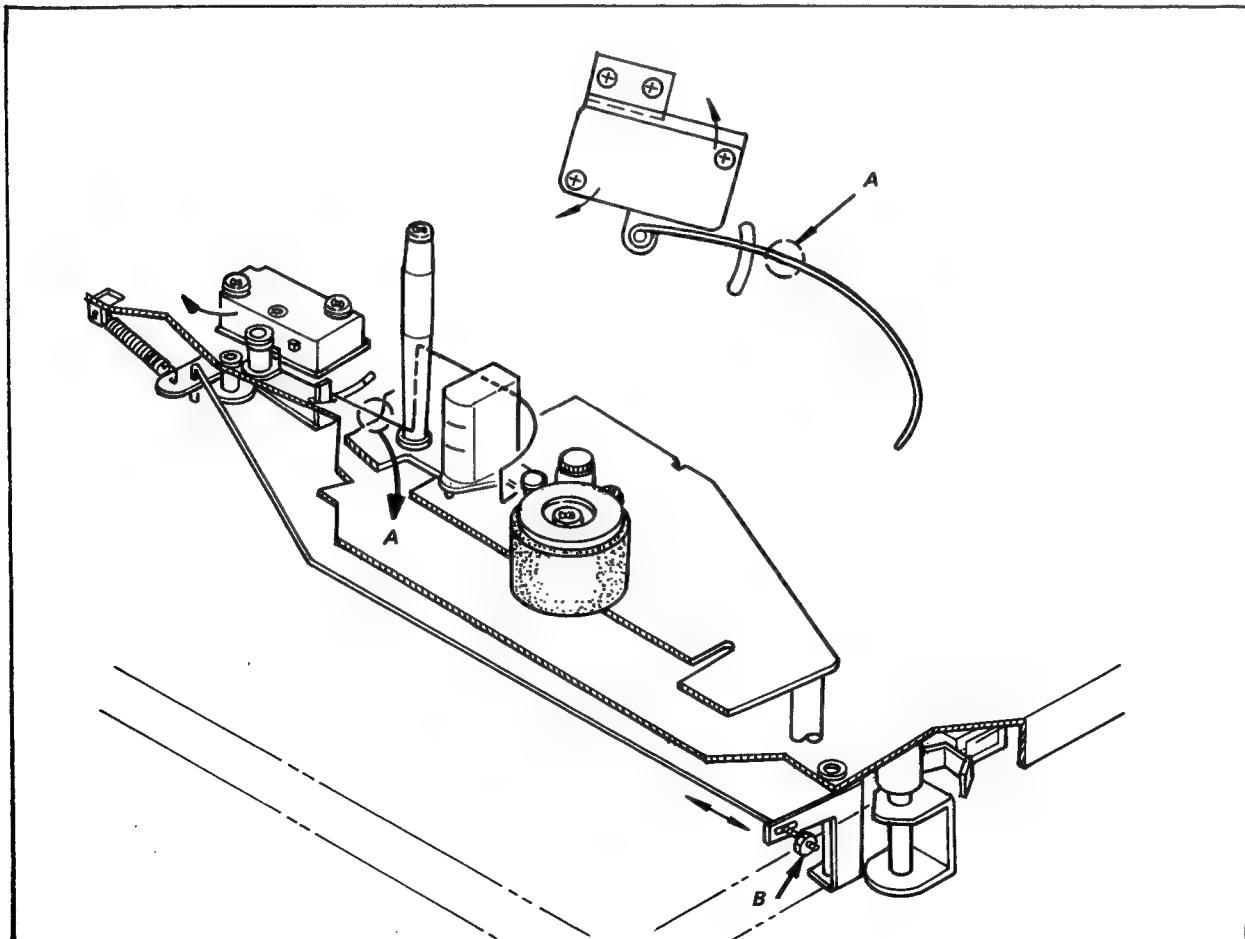

Fig. 4-20. Automatic shutoff switch adjustment
If not, bend the Section "A" of the sensing wire with a pair of pliers or turn the split nut at "B" shown in Fig. 4-20.
6. Loosen the two screws that secure the microswitch to the mounting bracket or the two screws that fasten the mounting bracket to the chassis. Slide the bracket or microswitch to obtain the correct condiction. See Fig. 4-20.